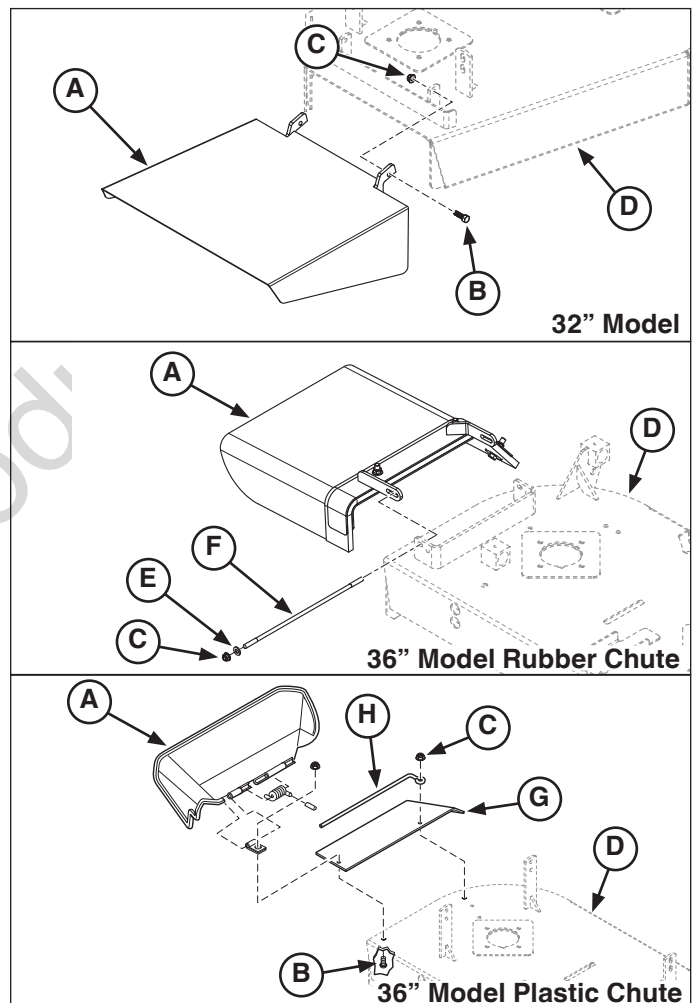

Figure 1. Removing Discharge Chute
2. **32" Model** - Remove the 5/16" bolts (B, Figure 1) and nuts (C) from the discharge chute (A).